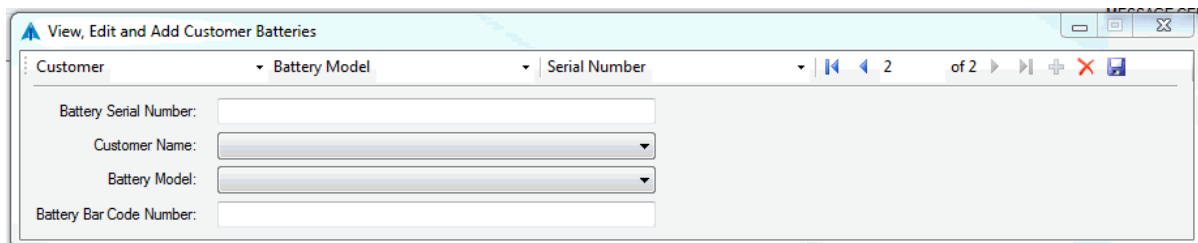

Figure 29 – View/Edit/Add Customer Battery Screen
- Click on Manage Customer Batteries and enter the Customer Battery Information - see [Figure 29].